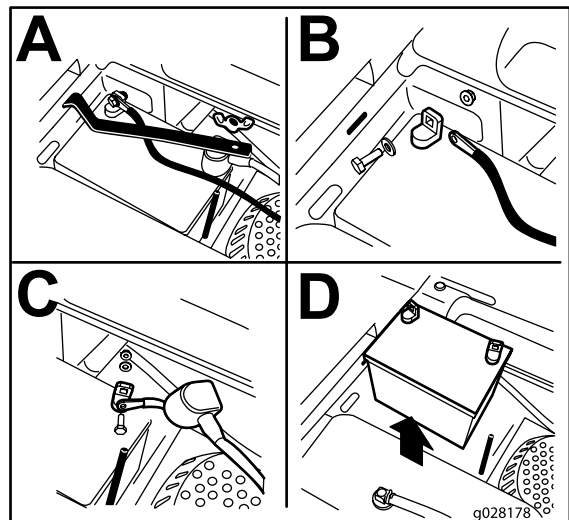

Figure 44
3. Remove the wing nut securing the battery clamp (Figure 44).
4. Remove the clamp (Figure 44).
5. Disconnect the negative battery cable (black) from the negative (-)(black) battery terminal (Figure 44).
6. Slide the red terminal boot off the positive (red) battery terminal and remove the positive (+)(red) battery cable (Figure 44).
1. Position battery in the tray with the terminal posts opposite from the fuel tank (Figure 44).
4. Secure the cables with 2 bolts, 2 washers, and 2 locknuts (Figure 44).
6. Install the clamp and secure it with the wing nut (Figure 44).